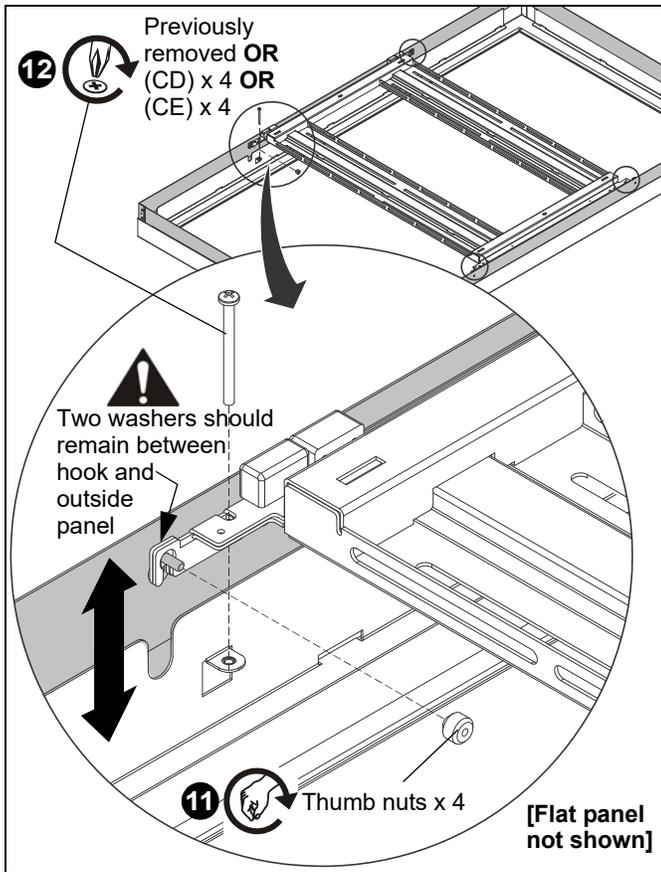

Figure 10
NOTE: The outer frame depth may be adjusted between 3-1/2" to 5-1/2" to make room for a variety of different flat panel thicknesses. (See Figure 10)
- The 4 Phillips screws removed in Step 1 can be replaced with four 10-24 x 2-3/4" Phillips screws (CD) **OR** four 10-24 x 3-1/2" Phillips screws (CE) for larger depth adjustments. (See Figure 10)
11. Tighten thumb nuts over threaded studs in four locations on the hinged frame. (See Figure 10)
12. Replace and fasten four Phillips screws which were removed in Step 1, **OR** replace the removed screws with four 10-24 x 2-3/4" Phillips head screws (CD), **OR** four 10-24 x 3-1/2" Phillips head screws (CE) to allow for a larger depth adjustment of the outer frame. (See Figure 10)